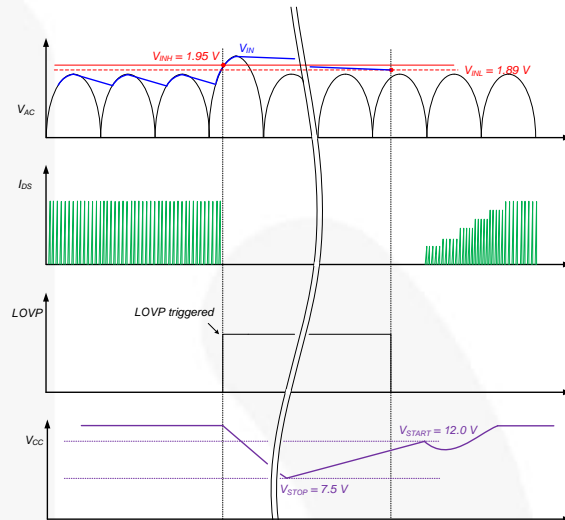

**Figure 23. Output-Short Protection**
**4.3. Output-Short Protection (OSP):** If the output is shorted, steep current with extremely high di/dt can flow through the SenseFET during the minimum turn-on time. Such a steep current creates high-voltage stress on the drain of the SenseFET when turned off. To protect the device from this abnormal condition, OSP is included. It is comprised of detecting  $V_{FB}$  and SenseFET turn-on time. When the  $V_{FB}$  is higher than 2.0 V and the SenseFET turn-on time is lower than 1.0  $\mu$ s, the FSL117MRIN recognizes this condition as an abnormal error and shuts down PWM switching until  $V_{CC}$  reaches  $V_{START}$  again. An abnormal condition output short is shown in Figure 23.